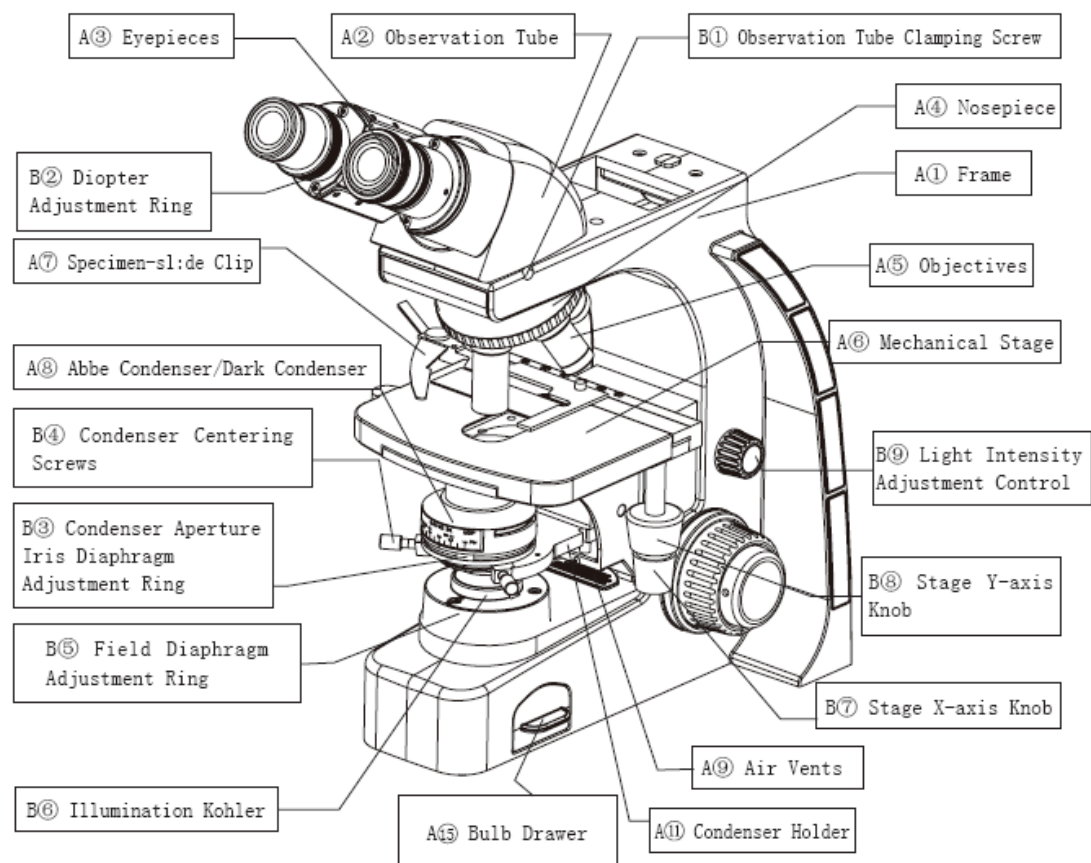
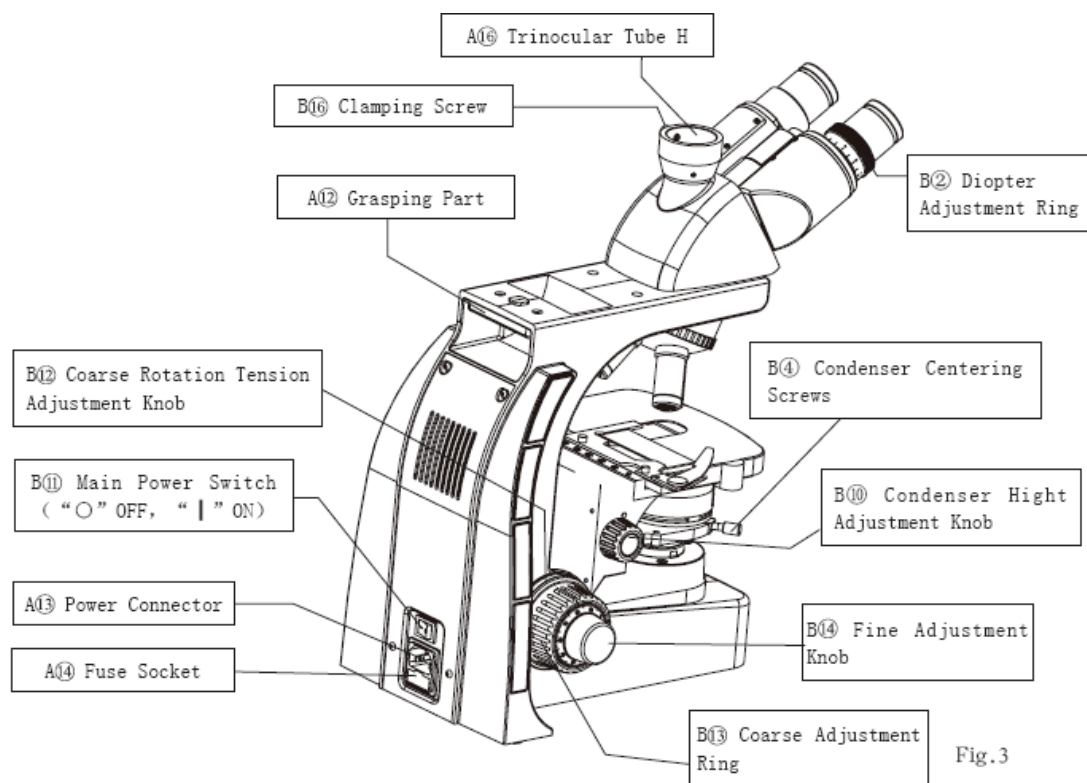
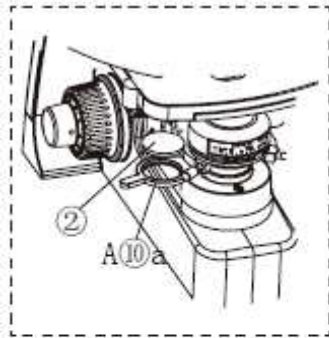
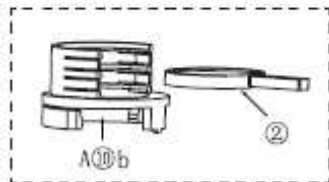

Fig.2
Fig.3
Fig. 6
Fig. 7
3.12 Never insert metallic objects into the air vents(A^⑨ in Fig.2) of the microscope frame as this could result in electrical shock, personal injury and equipment damage.
To avoid potential shock hazards and burns when replacing the light bulb, set the main switch(B in Fig.3) to "O" (OFF) . Then disconnect the power cord from the wall outlet in advance. Whenever you replace the bulb during use or right after use, allow the lamp housing and bulb to cool before touching.
2.2.2 Attaching the Observation Tube(Figs.2&4)
a) Using the Allen screwdriver, loosen the observation tube clamping screw (B① in Fig.2)on the observation tube mount.
2.2.3 Attaching the Eyepieces(Figs.2&4)
2.2.4 Attaching the Objectives(Fig.2)
b) Screw the objectives into the nosepiece(A④ in Fig.2) in the order from lower-power to higher-power.
2.2.5 Attaching the Condenser(Figs.2&4)
a) Raise the stage to the farthest position by rotating the coarse adjustment knob (B13 in Fig.3) and lower the condenser holder to the farthest position by rotating the condenser height adjustment knob(B⑩ in Fig.3)
b) Loosen the condenser centering screws.(B④ in Fig.2)
c) Fit the required condenser into the mount dovetail on the condenser holder(A11 in Fig.2), and push in the condenser until its positioning pin fits into the positioning
b) Mount the filter to the movable filter holder(Fig.6)
b.1 Stir the filter holder (A10a in Fig.6)out to the left from the bottom of the condenser holder(A11 in Fig.2)
b.2 Insert the filter(2 in Fig.6) down into the filter holder
without tilting. Move the holder(A10a in Fig.6) back to the position right down the condenser into the light path.
c) Mount the filter to the filter holder.(Fig.7)
c.1 Push the filter holder(A10b in Fig.7)downwards and mount it to the illumination Kohler. (B6 in Fig.2)
c.2 Insert the required filter (2 in Fig.7) into the holder. More than one filter can be stacked in this filter holder.
3.2.1 Turning Power On, Adjusting the Brightness(Figs.2&3)
- Make sure that the light intensity control (B[⊙] in Fig.2) is in the MIN (minimum intensity) position and set the main switch(B Fig.3) to "I" (ON).
3.2.2 Focusing Block(Figs.3&8)
3.2.3 Mechanical Stage (Figs.2, 9&10)
3.2.4 Observation Tube(Figs.2, 11&12)
b.2 Look through the left eyepiece and rotate only the diopter adjustment ring(B② in Fig.2) on the left eyepiece sleeve to bring the specimen into focus.